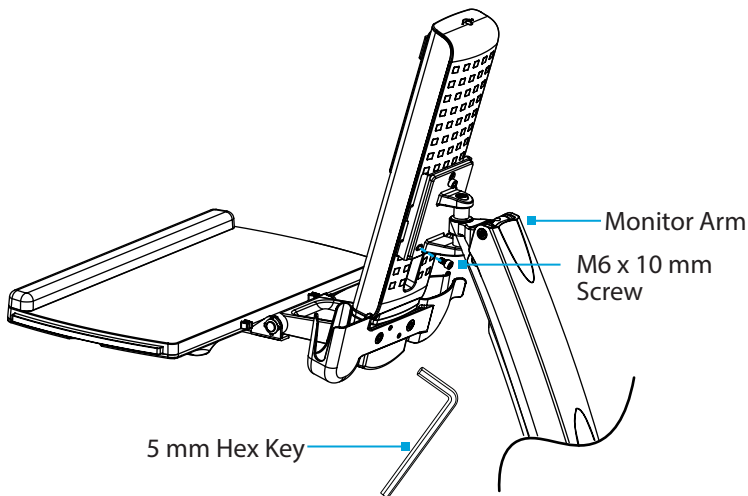

Figure 16
3. Insert the second **M6 x 10 mm Screw** into the hole, located on the **Plate** on the **Monitor Arm** and tighten, using the **5 mm Hex Key**. (Figure 16)